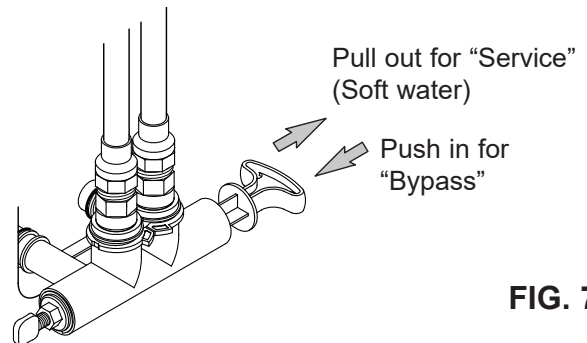

FIG. 7
Always install either a single bypass valve (provided), as shown in Figure 7, or, if desired, parts for a 3 valve bypass system (not included) can be purchased and assembled, as shown in Figure 8. Bypass valves allow you to turn off water to the softener for maintenance if needed, but still have water in house pipes.
2. Place the bypass valve (single or 3 valve) into the "bypass" position. See Figures 7 & 8 on Page 7.